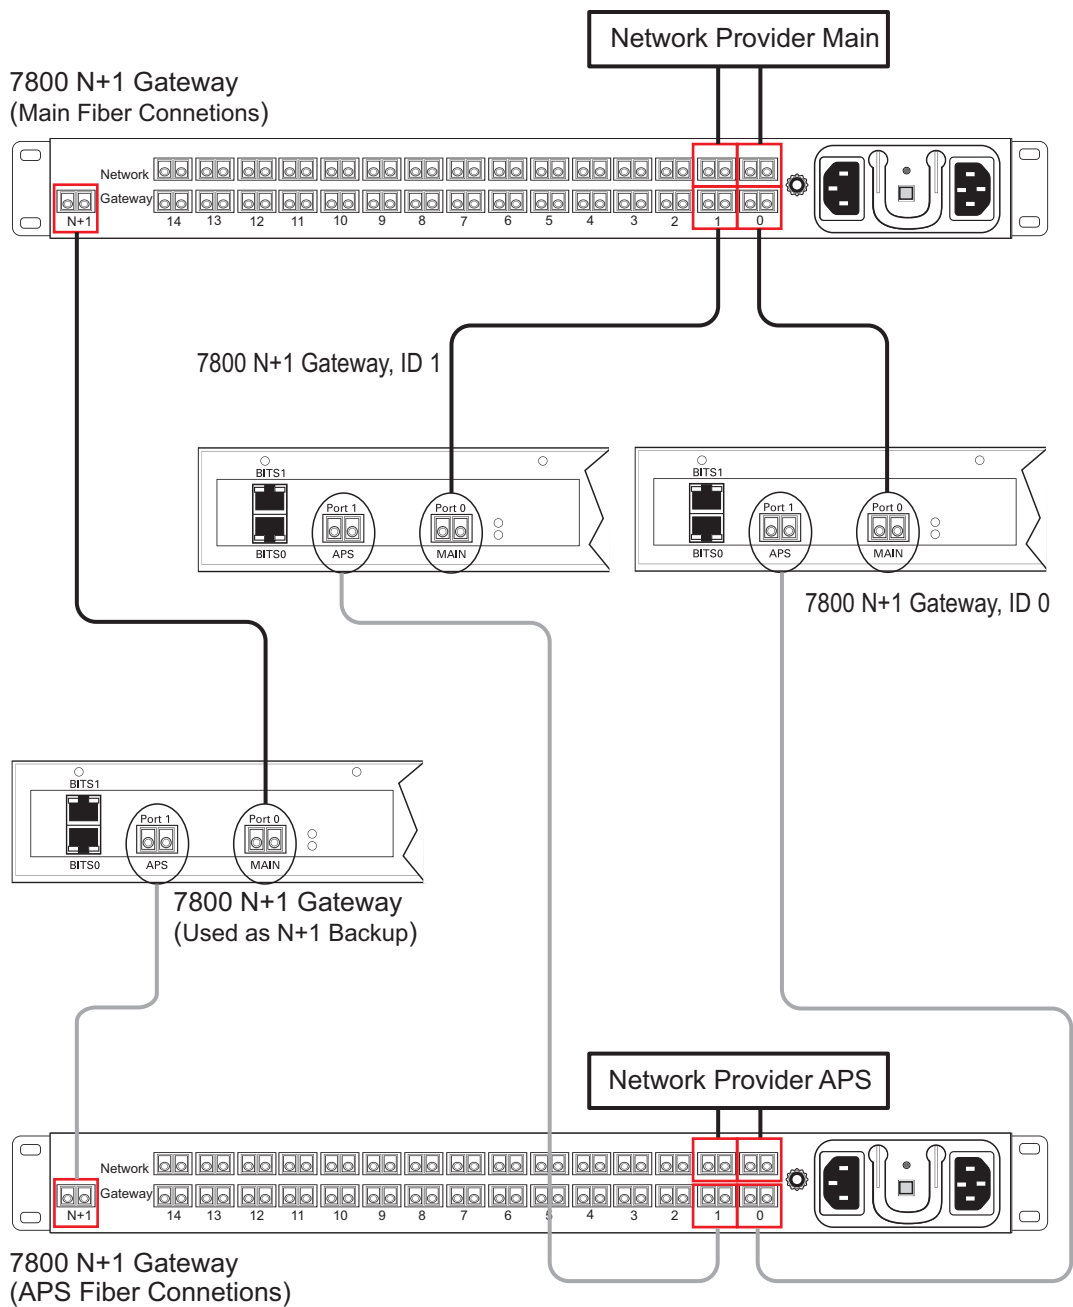

Figure 4.9 Optical Interface Connections to the 7800 N+1 Patch Panel
2. Relate the fiber optic cables from the network provider with each TMG7800-STM1 and use the same port number that is assigned to each TMG7800-STM1. See figure 4.9 on page 34